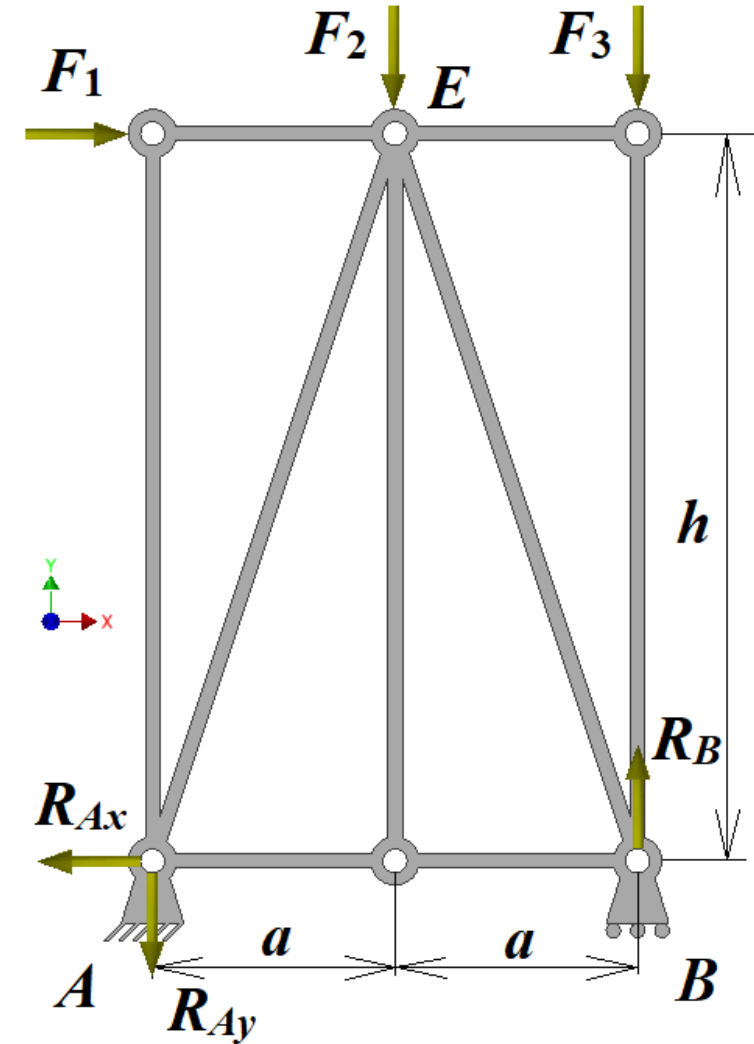

Fig. 2 – Calculation scheme
1. Construct equations of equilibrium (**Fig. 2**)